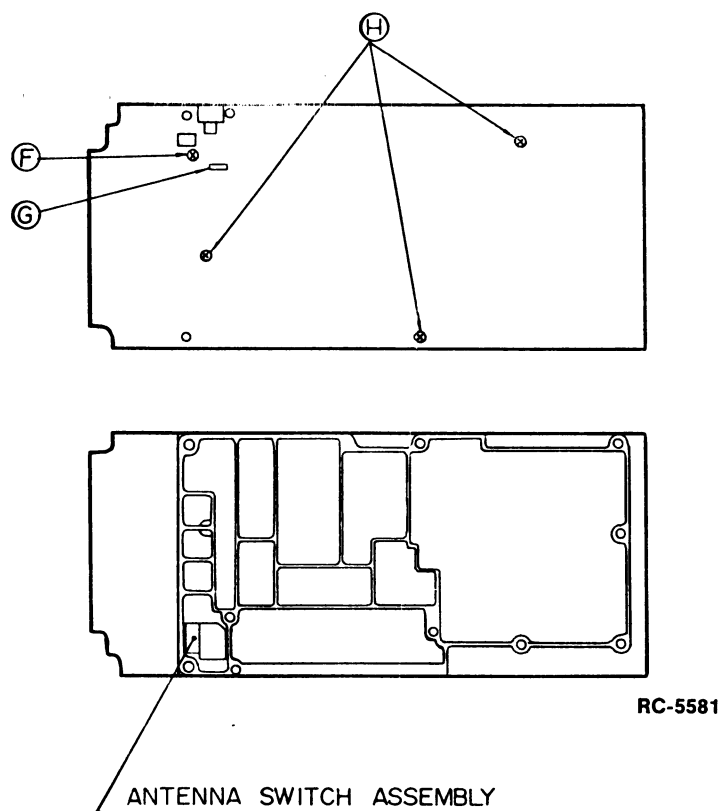

FIGURE 24 - DISASSEMBLY STEP 4
5. To remove antenna changeover switch, remove self tapping screw (F) using the Phillips head screwdriver. Unsolder the antenna switch lead connection at (G). Then the antenna switch assembly can be readily removed by hand. Remove 3 screws (H) using the Phillips head screwdriver. Then the P.W.W. (egg crate) can be removed. See Figure 24